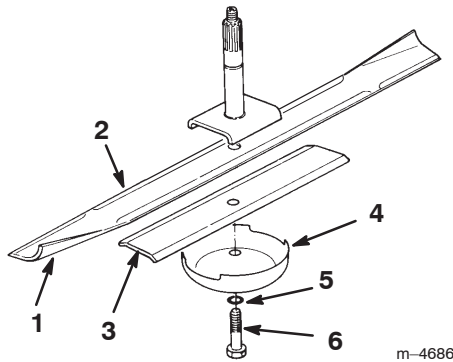

Figure 22
2. Remove the blade bolt, lock washer, anti-scalp cup, blade, and spacer from the spindle shaft (Fig. 22).
4. If the blade is not balanced, file some metal off the end of the sail area only (Fig. 22).
1. Install the spacer and blade onto the spindle shaft (Fig. 22).
2. Install the anti-scalp cup, lock washer, and blade bolt (Fig. 22).